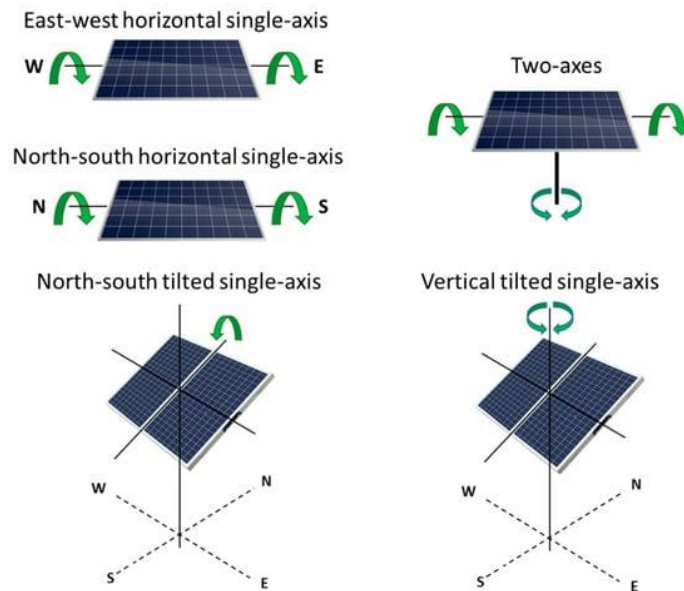
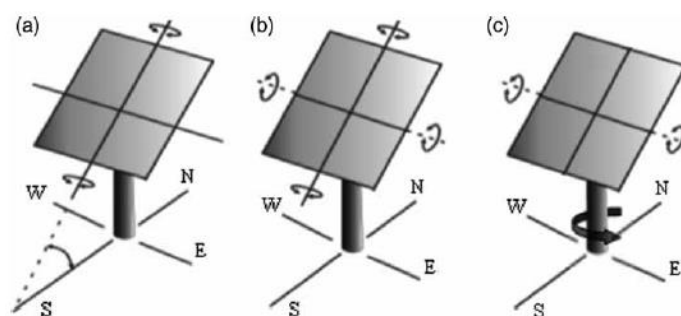

Figure 4: Single- & dual-axis solar panel configurations
Figure 5: Dual-axis solar panel configurations – polar & azimuthal axes/orientations (Bonus scenario)
- Figure 4 and Figure 5 show the orientation / axes for the solar panels.